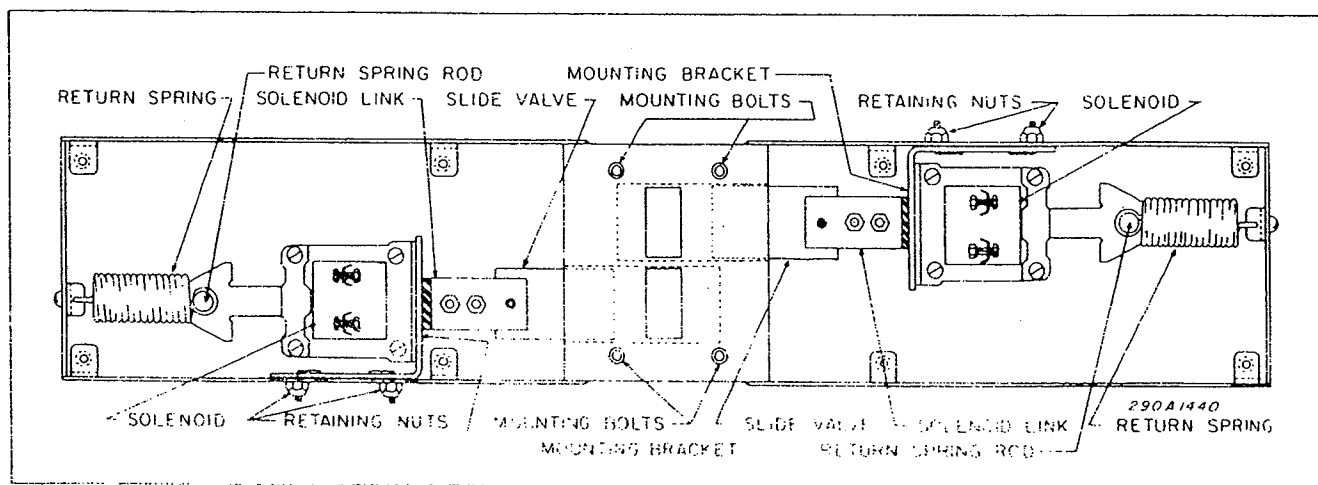

Figure 5-10. Slide Valve Assembly Interior View.
G. Solenoid Replacement (Model 1003 Only - see figure 5-10)